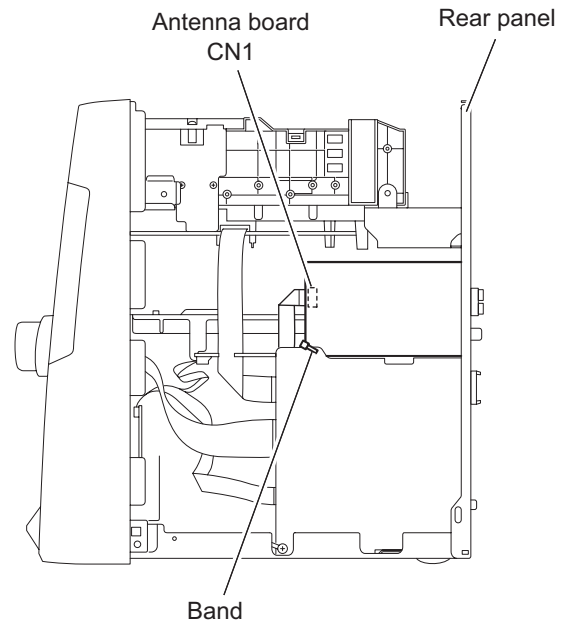

Fig.10
3.1.4 Removing the antenna board (See Fig.10, 11)